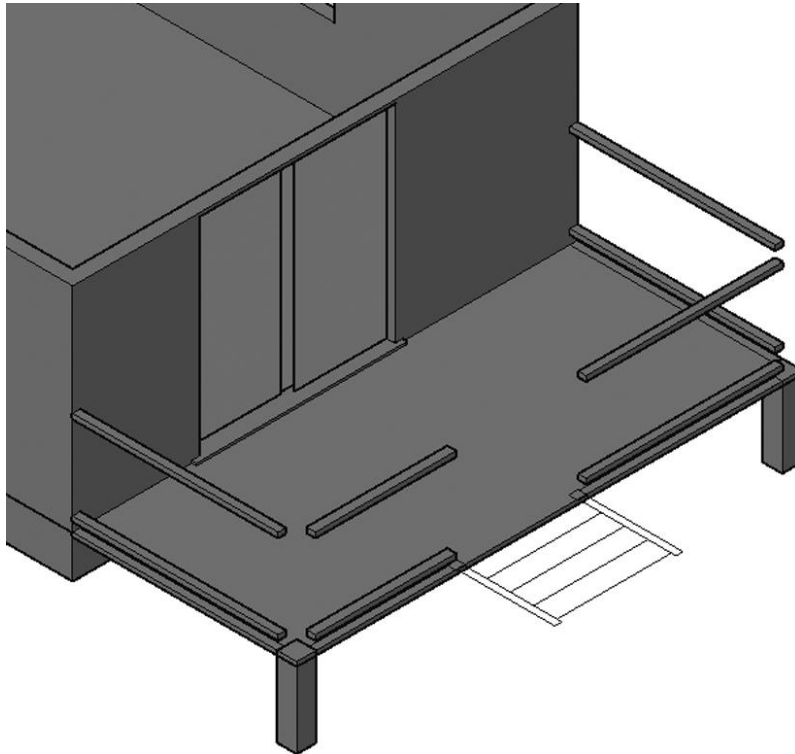

FIGURE 16.53: The railings in place and adjusted for size
11. Use the Zoom Previous command (**Z**↵**P**↵) to return to the current view (see Figure 16.53).